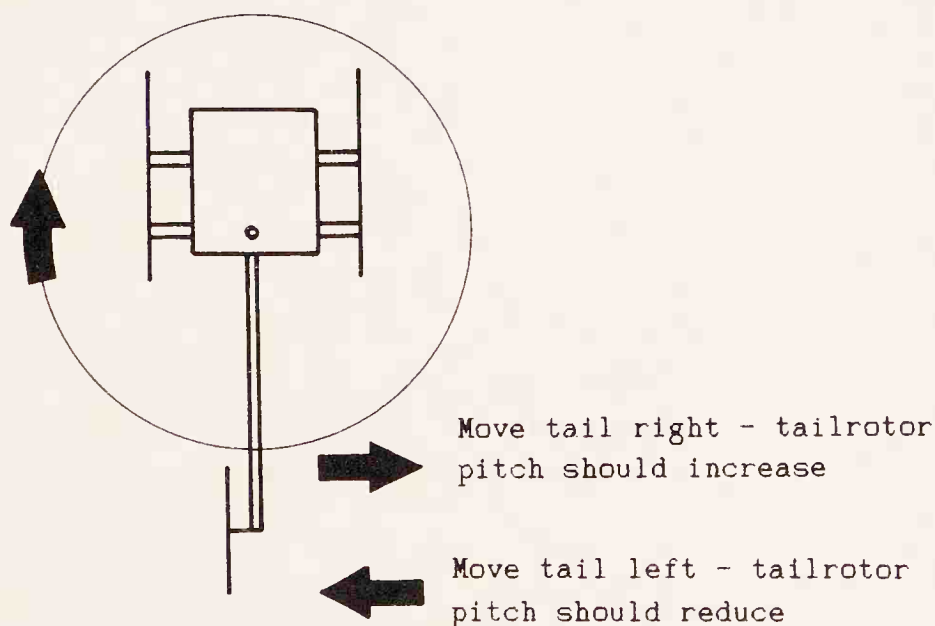

Fig. 53 Tail response to gyro.
- (d) With your radio equipment switched on and the gyro running, try moving the tail of the model sharply to the right. The tail rotor servo should move to increase the tail rotor pitch and attempt to move the tail to the left to compensate. If the tail is moved sharply to the left, the tail rotor pitch should automatically be reduced to correct this (Figure 53).